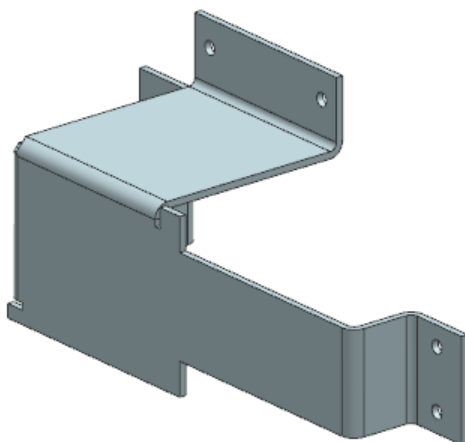
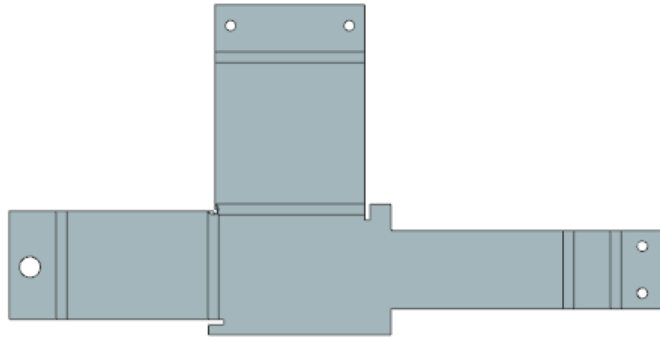
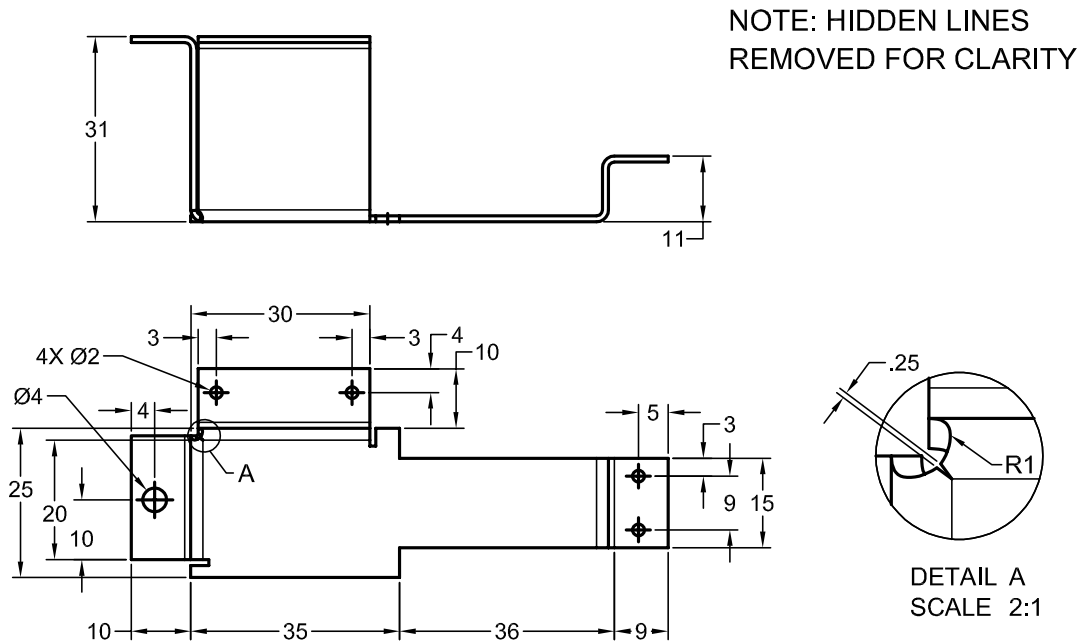
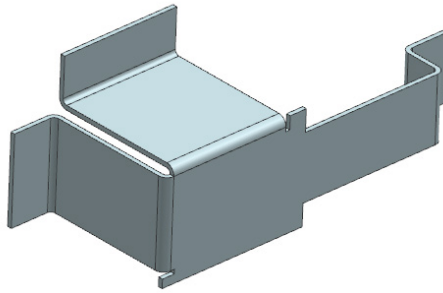

Figure 14-126 Sheet metal part for Tutorial 2
Figure 14-127 Flat solid of the part
Figure 14-128 Dimensions of the sheet metal part
Figure 14-133 Model after creating all flanges
In this tutorial, you will create the sheet metal component shown in Figure 14-126. The flat solid of the component is shown in Figure 14-127. The dimensions of the component are shown in Figure 14-128. The material thickness, bend radius, relief depth, and relief width is 1 mm each. Save the component with the name *c14tut2.prt* at the location given next:
8. Next, create the remaining flanges, as shown in Figure 14-133. For dimensions, refer to Figure 14-128.
1. Choose the **Hole** tool from **Menu > Insert > Design Feature** in the **Top Border Bar**; the **Hole** dialog box is displayed. Change the dimensions of the holes and create the holes on the left most flange. For dimensions of the holes, refer to Figure 14-128. Similarly, create the other holes. The final sheet metal part after creating the holes is shown in Figure 14-135(a). Figure 14-135(b) shows the final sheet metal part in trimetric view.